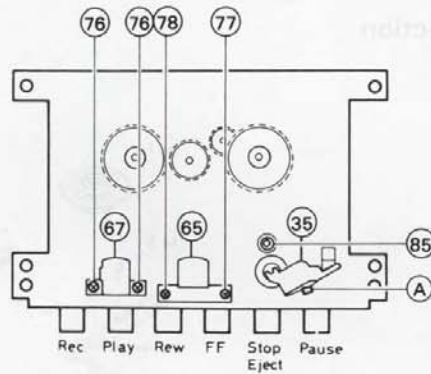
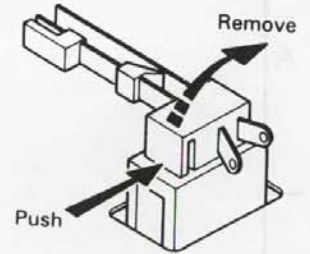

Fig. 7-17
Fig. 7-18
■ Recording/playback head (65) and Erase head (67) (Fig. 7-17)
- 1) Remove two screws (71), (78) retaining the recording/playback head (65).
- 2) Remove two screws (76) retaining the erase head (67).
■ Pinch roller Ass'y (Fig. 7-17)
■ Flywheel ass'y (44) or (43) (Fig. 7-17)
- 1) Remove the poly washer (85) securing the capstan shaft.
- 2) Pull out the flywheel ass'y (44) or (43).
- Leaf switch (Fig. 7-18)